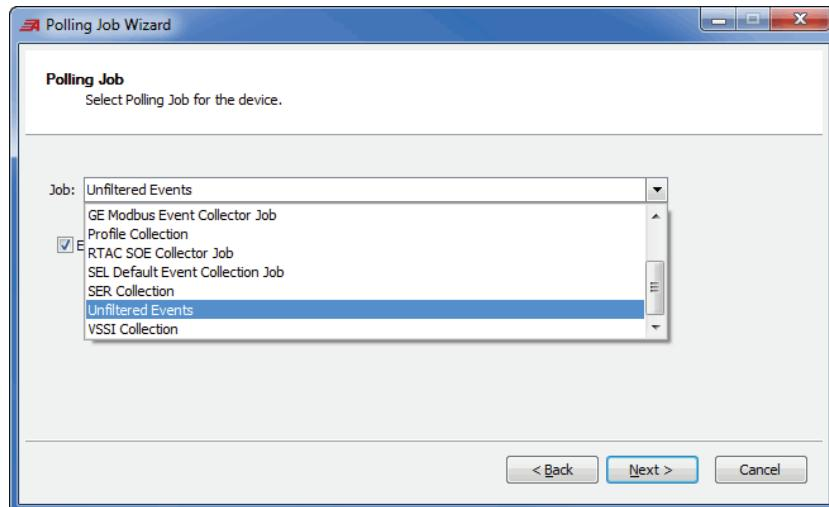

Figure 89 Assign a Newly Created Job to a Device
- Step 2. Select **Edit** and then **Add** under **Polling Jobs** to start the **Polling Job Wizard**. Select **Next** until you see the **Polling Job** window and then select **Unfiltered Events** from the drop-down menu, as shown in *Figure 89*.